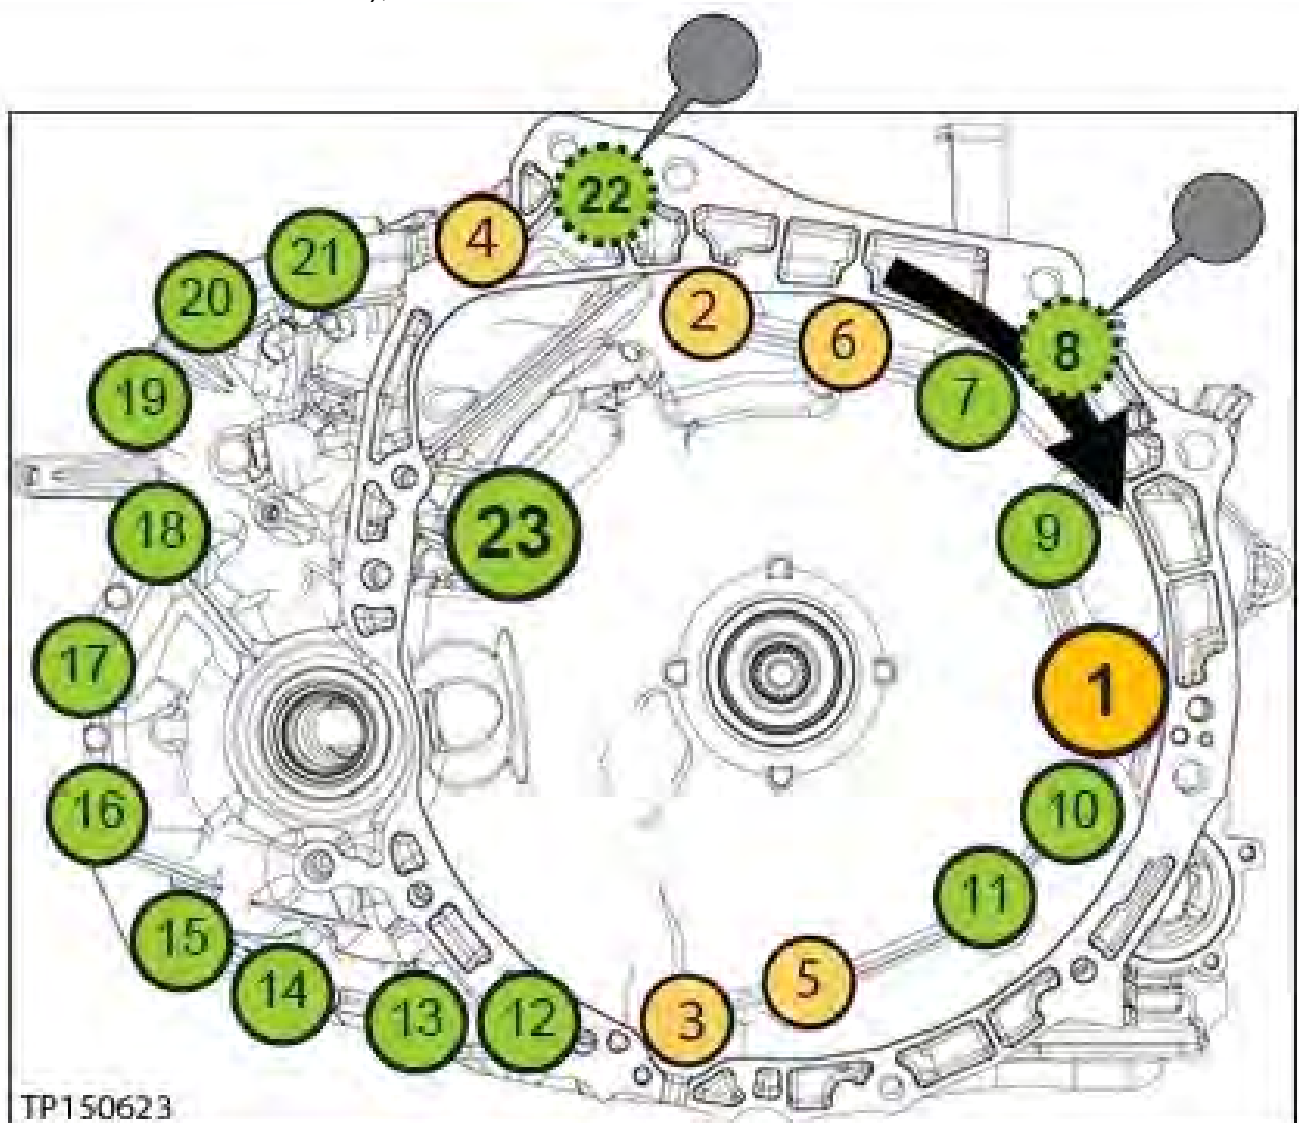

Figure 151
114. Install the converter housing onto the CVT case (see Figure 151 for torque sequence):
- a. Torque the first six (6) bolts with symbol  in numbered sequence (see below).
- Make sure to torque the bolts in the sequence shown in (Figure 151), below.